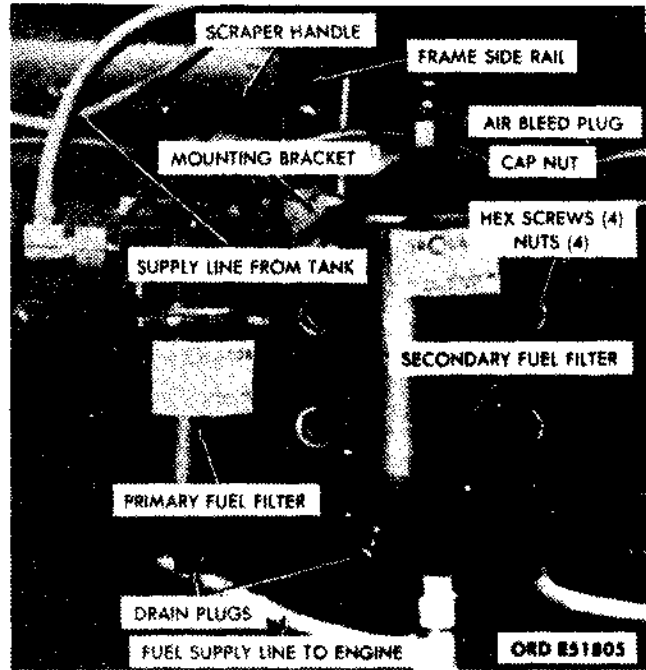

Figure 2-85. Primary and secondary fuel filters—multifuel engine LDS465-1.
(1) Open the filter drain plug (fig. 2-85), and drain the fuel into a suitable container.
(2) Remove the bolt and washer securing the filter housing. Remove the housing, and discard the gasket.
(3) Remove the element and gasket. Discard the secondary and final elements and gaskets (do not discard the primary element).